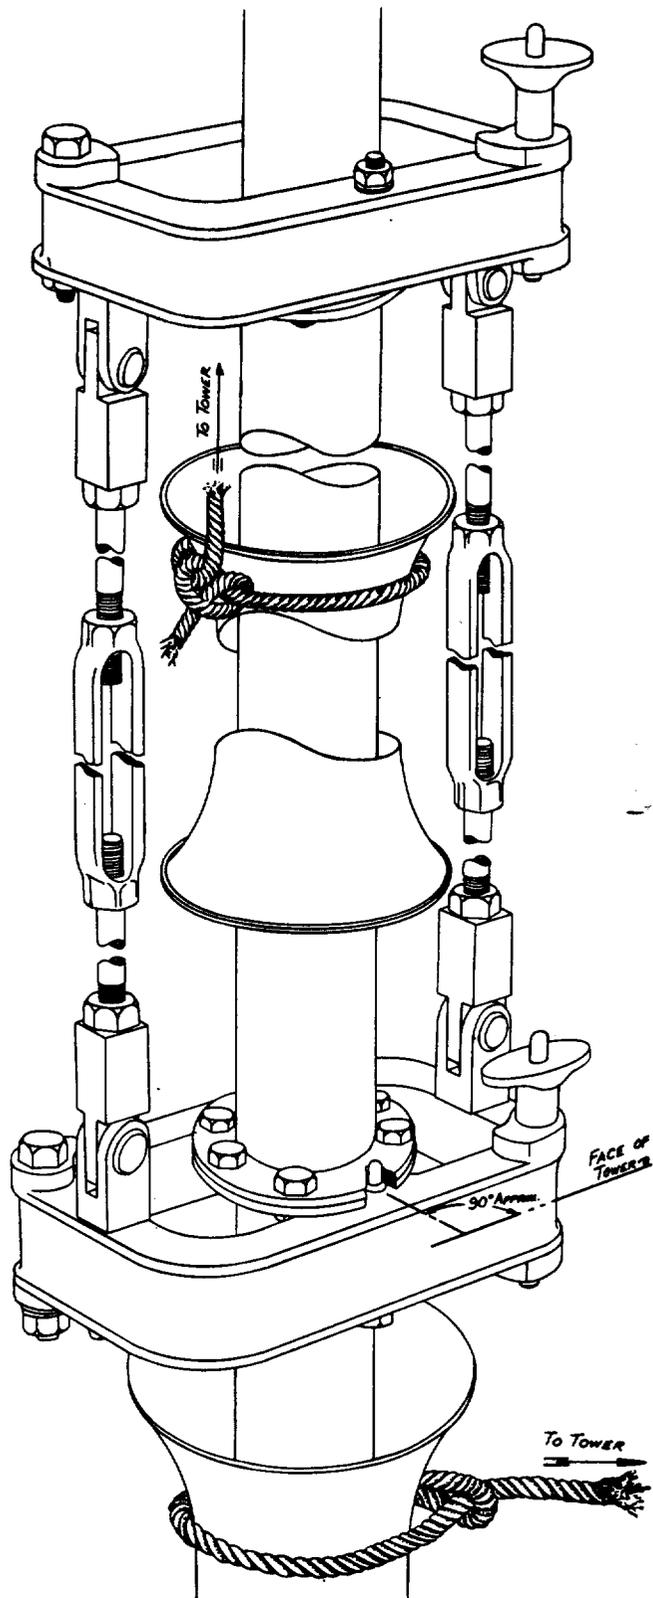

Fig. 2 - Replacing Damaged Waveguide Restrainer
5.03 Remove the "U" bolts holding the damaged restrainer tube and secure the tube so that it will be within the confines of the waveguide replacement tool when it is installed. (See Fig. 2.)
5.07 Assemble the split frames (Fig. 2) with rods and turnbuckles above and below the flanges of the adjacent waveguide sections.